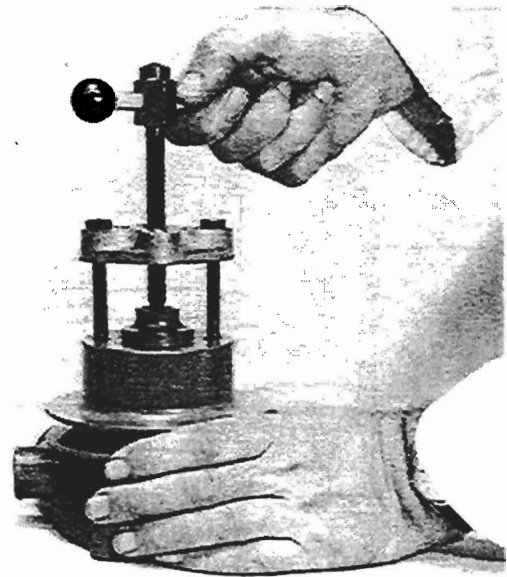

Fig. N3
To dismantle water pump (see fig. N3)
1. Remove water pump pulley by the use of a suitable tool (see fig. N3). The holes tapped in the pulley can be used for this purpose.
2. Press water pump shaft (2) complete with bearings and impeller (7) out through rear of pump body (1).
4. Remove ceramic counterface (6), seal (5) and thrower where separate, (4) from water pump shaft.